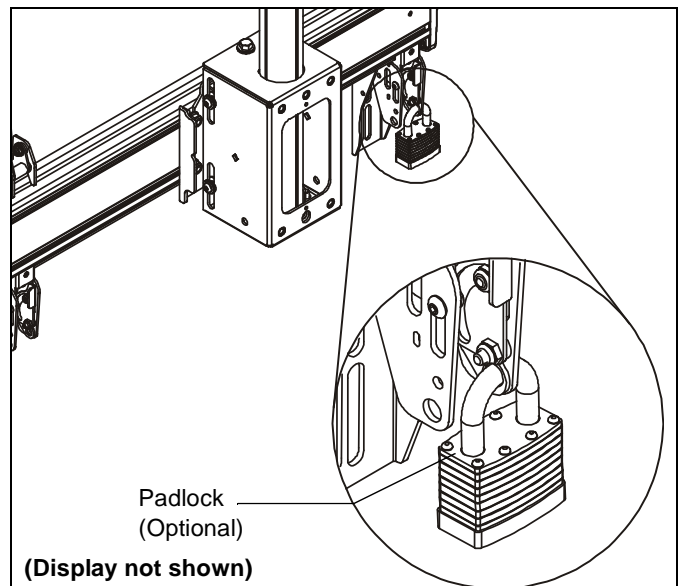

Figure 17
1. **OPTIONAL:** Add padlock (not included) to each interface bracket to lock display to ceiling mount. (See Figure 17)